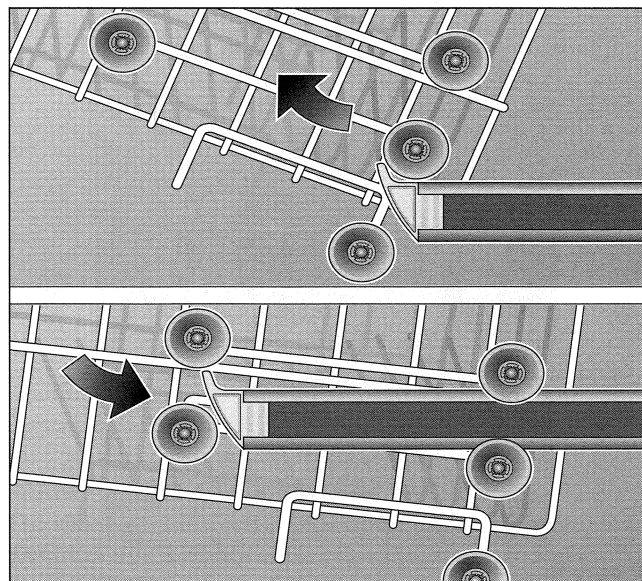

Figure 6.
The upper rack height of the The DLX series dishwashers (SHU 3012 UC and SHU 3016 UC) is adjustable. There are two positions, see figure 6:
- First empty upper rack and pull rack partially out to point where rack can be lifted upward as shown in upper illustration of Figure 6.